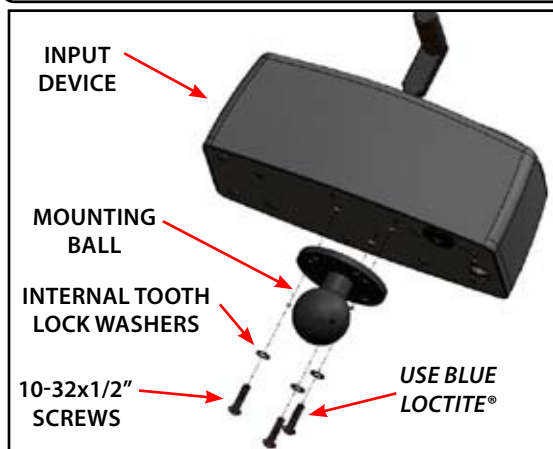
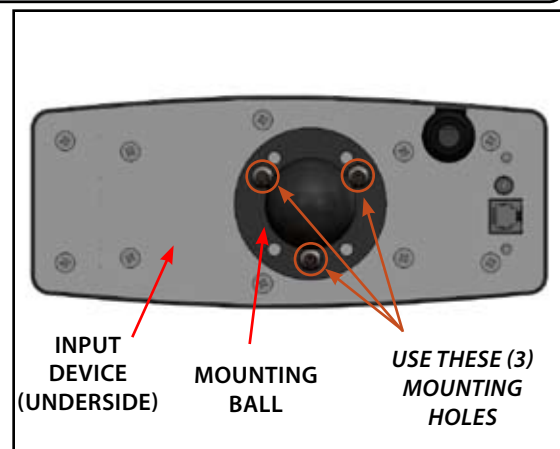

FIGURE 1
FIGURE 2
- (1) Container of Blue Loctite®
Install the Mounting Ball onto the input device using (3) 10-32 x 1/2" safety torx screws, (3) internal tooth lock washers and the Blue Loctite® as shown in **Figure 1**. In order to install the (3) safety torx screws you will need to use the supplied safety torx bit. There are (7) pre-drilled holes on the mounting ball. **Figure 2** shows which holes should be used to mount the ball onto the input device.